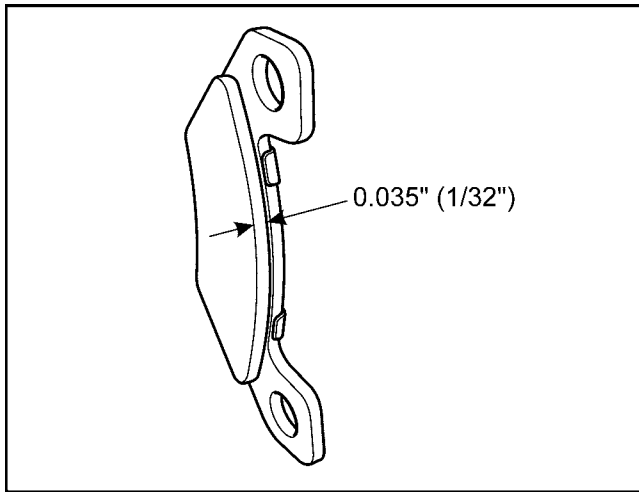

Figure 7-19b. Brake pad wear, HDi handbrake pads
- the brake lining material molded to each metal backing plate is worn to 0.035” (1/32”) thickness. (Figure 7-19b).